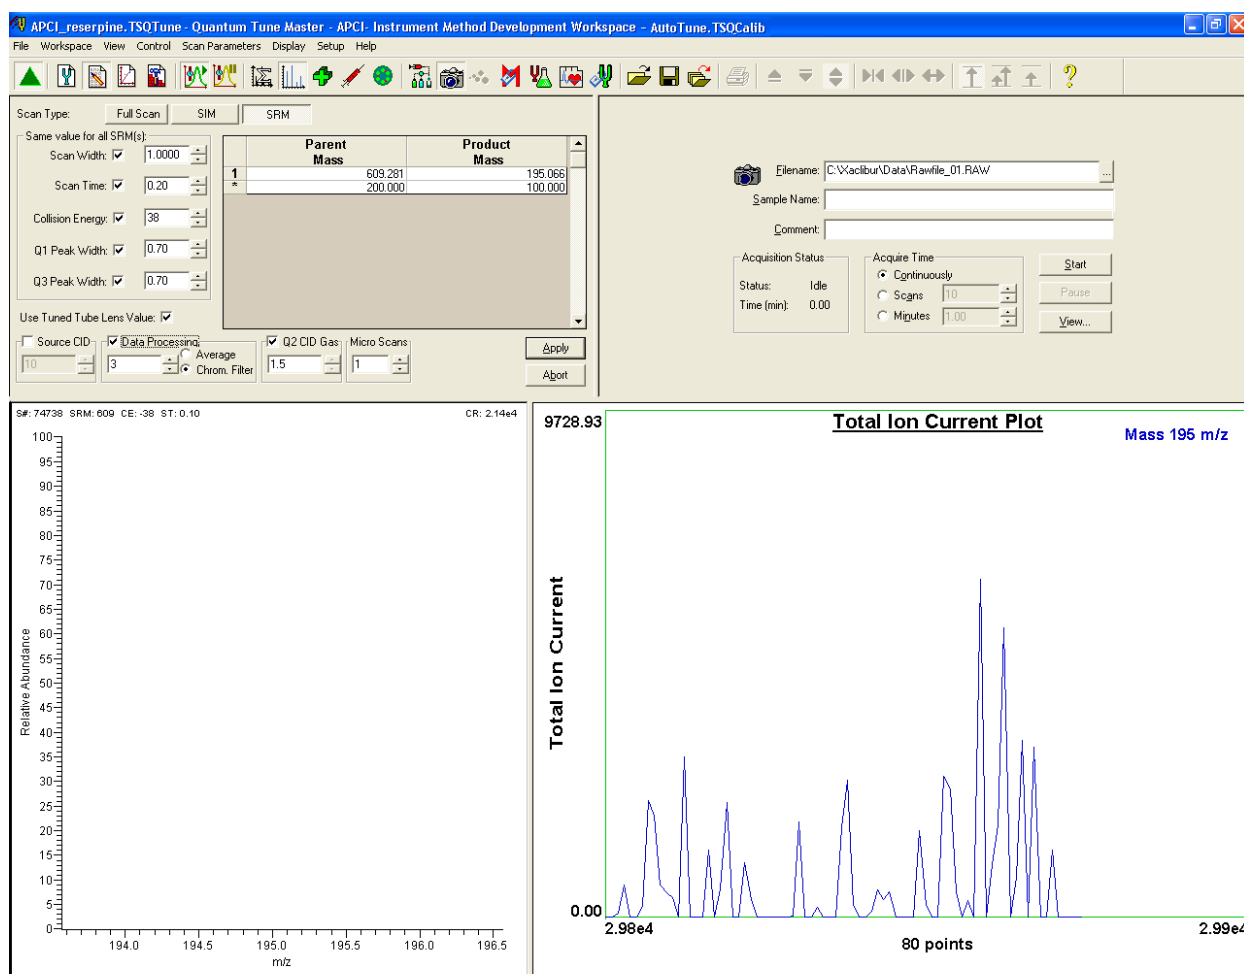

Figure 8-8. Instrument Method Development workspace, showing the SRM scan type
7. On the Control / Scan Mode toolbar, click on the Display TIC button to begin recording the total ion current in the Graph view in the bottom right corner of the workspace. See Figure 8-8.